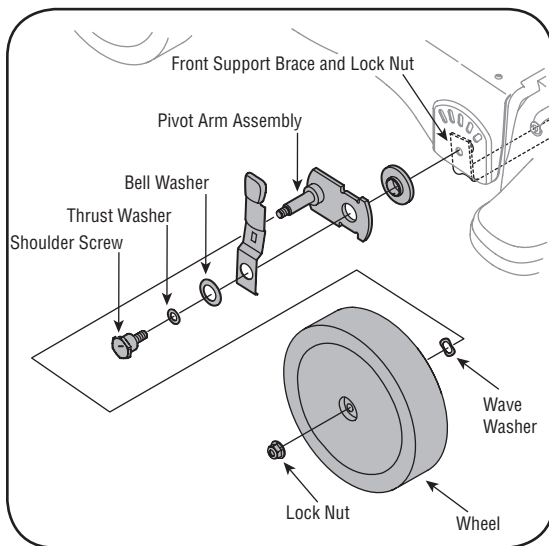

Figure 5-6
4. Remove the flange lock nuts, front wheels, and wave washers that attach to the pivot arm assemblies. See Figure 5-6.